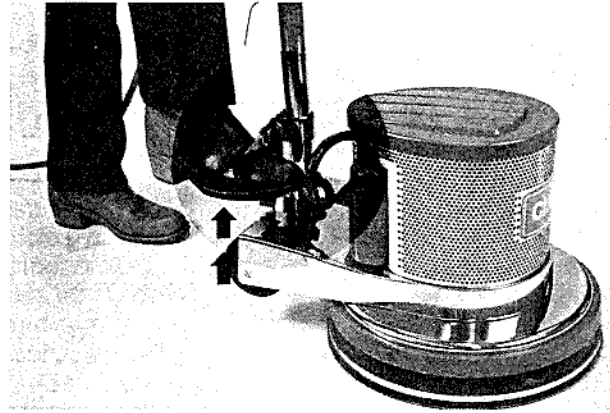

Figure 9
1. The locking lever is in the lower part of the handle tube. Lift the lever with your foot. See figure 9.